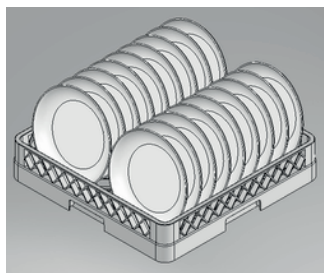

Fig. 6
- You must necessarily join the device to the installation of equalising electrical potentials with the help of equipotential bolt (Fig. 6 Pos. 1) placed in the back of the device. It is marked by the following symbol: